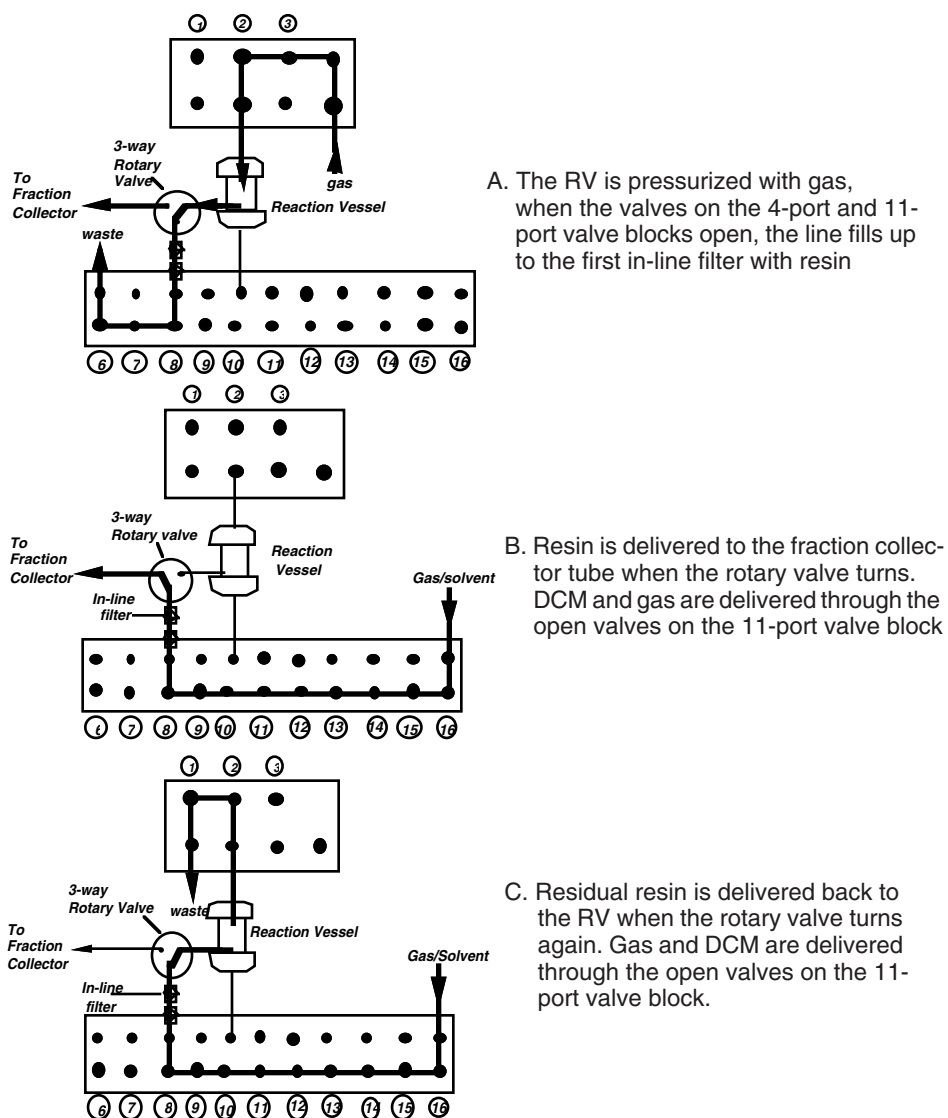

Figure 8-14. The steps of resin sampling
The resin sampler consists of a rotary valve with three lines connected to it (see Figure 8-14). The line connected to the 11-port valve block at valve 8 has two in-line filters to prevent resin from entering the valve block. A second line connects to a fraction collector, and the third line connects to the bulkhead fitting which connects to the RV. The rotary valve has two positions. Gas pressure moves the valve back and forth.
To collect a resin sample, the resin-sampler valve must open to let the resin sample flow from the RV. When the RV is pressurized with gas and valve 8 is open, the resin and solvent slurry flows from the RV, through the rotary valve and up to the first in-line filter (see Figure 8-14 A). Resin remains in the line while solvent flows through to waste. The rotary valve then changes position creating a path to the fraction collector (FC). When gas or solvent delivery goes through the 11-port valve block to valve 8, the resin in both the rotary valve and the line, up to the in-line filter, is delivered to the FC (see Figure 8-14 B). Approximately 2 to 8 mg of resin flows to the FC.
Residual resin in the line between the rotary valve and the RV can be delivered back to the RV when the rotary valve changes position again. When gas or solvent delivery is made through the 11-port valve block and valve 8 is open, resin will flow back to the RV (see Figure 8-14 C). Refer to “The Resin Sampler” on page 8-23.